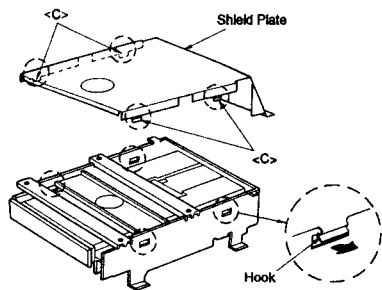

Figure 4
(3) Unhook four hooks <C> as shown in Figure 4.
(4) Raise the CD-ROM Drive shield plate.